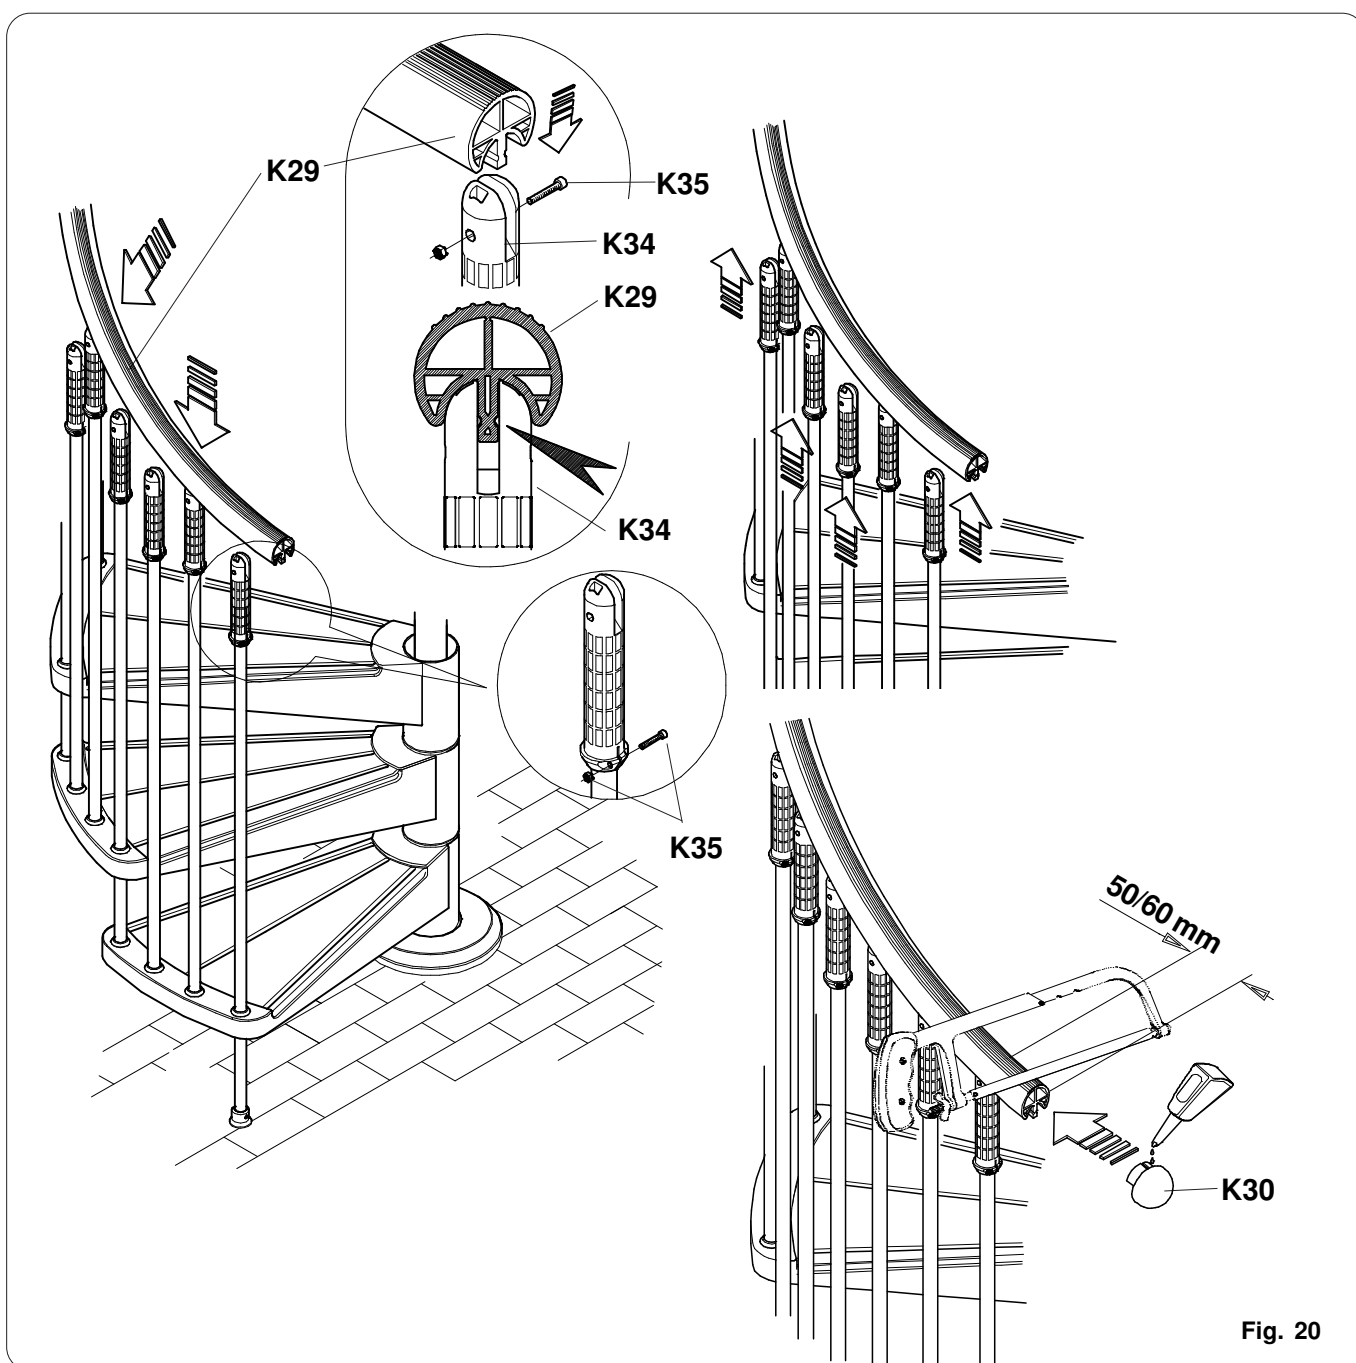

Fig. 20
- Starting from above, insert the central part of the handrail (detail fig. 20) into the **K34** column cover of the second column of each step by making the necessary pressure until it snaps into positions. Avoid getting burnt because of the excessive handrail temperature (in case, wear gloves).
By means of a saw, cut the handrail ends leaving a 50/60 mm segment projecting beyond the column and mount the **K30** plugs and anchor them with the available glue (fig. 20).